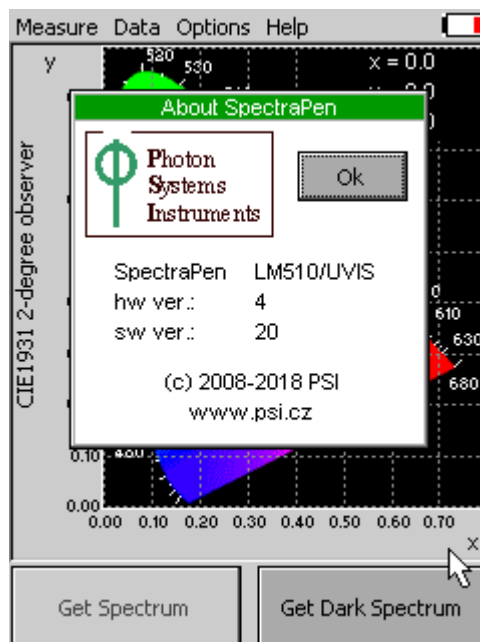

Fig. 16 Information about the device.
- **About...**- information about the device, hardware and software version (Fig. 16).